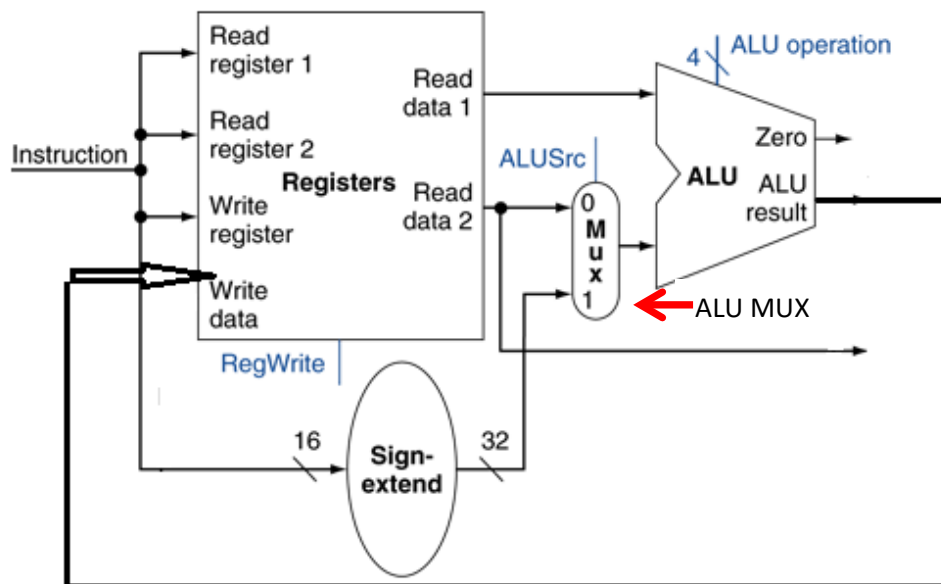
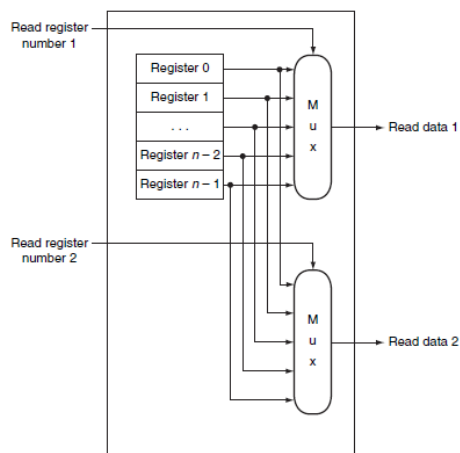
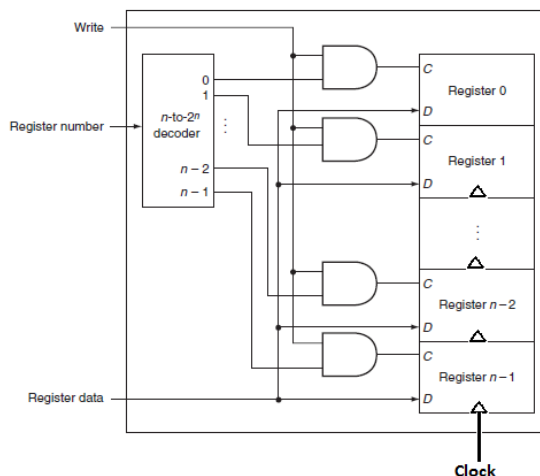

Figure 1.
Figure 2. Read Unit
Figure 3. Write Unit
The block diagram of *read unit* of register is provided in figure 2. This unit shows 32 registers of 32 bit each (Register 0 to Register (n-1), with $n = 32$). The select signal to the mux is the operand from the instruction memory (which you implemented in phase 1 of the project). This signal is same as Read register 1 and Read register 2 in Figure 1.
The block diagram of the *write unit* of the register file is provided in Figure 3. Write unit has four input signals. Clock, Write (which is same as RegWrite in Figure 1), Register Number, which is same as input connected to the write register in Figure 1 and Register data, which needs to be connected to the Write data port of Figure 1. Also notice that each Register has three inputs, C, D and Clock. The C input acts as an enabling input of the register (enable the write port of the specific register), and write at the positive edge of the next Clock signal. The clock signal is the master clock at which the register writes the data. D is 32 bit input data coming from the data memory (Register Data). And n to 2^n decoder shows 5 to 32 decoder.
3. Register file unit should be implemented as shown in the Figure 1 and Figure 2 (distinctly provide the codes for decoder, multiplexer and registers).